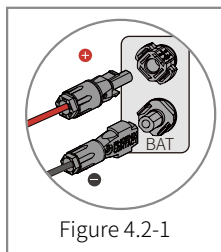

Figure 4.2-1
- **Battery connections:** Confirm that the connections between the ET and battery and that the polarities (+/-) are not reversed. Refer to figure 4.2-1